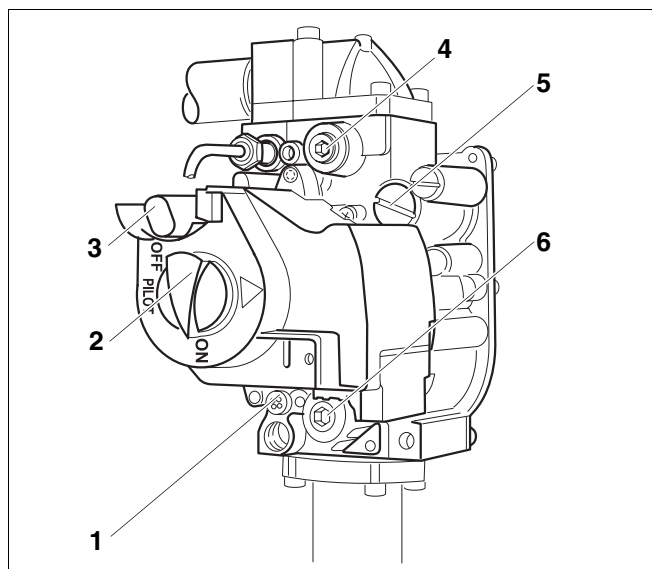

Fig. 32 Gasarmatur GC124 SP
14. Compare the manifold pressure with the values in → Tab. 9. If it differs by more than 0.2" W.C., adjust accordingly. To set the manifold pressure, the protective screw on the gas valve must be removed (→ Fig. 32). Turn the adjustment screw clockwise to increase the pressure, and counterclockwise to reduce the pressure. This setting must be adjusted while the boiler is operating.